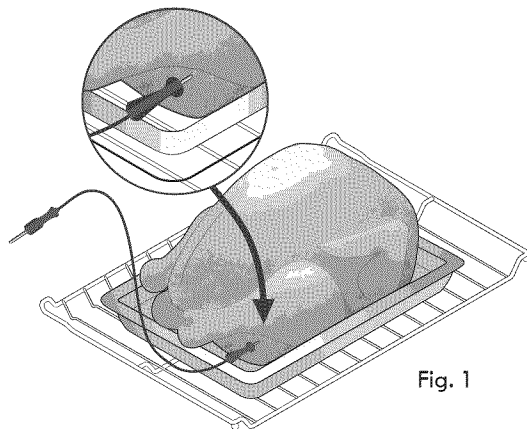

Fig. 1
- For whole poultry or turkey, insert the probe into the thickest part of the inner thigh, below the leg -Fig. 1-.
1. Insert the probe into the food and place the food into the oven -Fig. 1-.